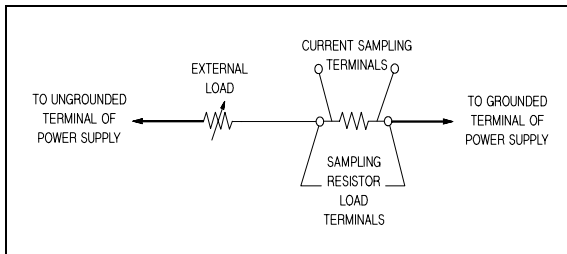

**Figure A-3. Front Panel Terminal Connections**
When performance measurements are made at the front terminals (Figure A-3) the load should be plugged into the front of the terminals at (B) while the monitoring device is connected to a small lead or bus wire inserted through the hole in the neck of the binding post at (A). Connecting the measuring device at (B) would result in a measurement that includes the resistance of the leads between the output terminals and the point of connection.